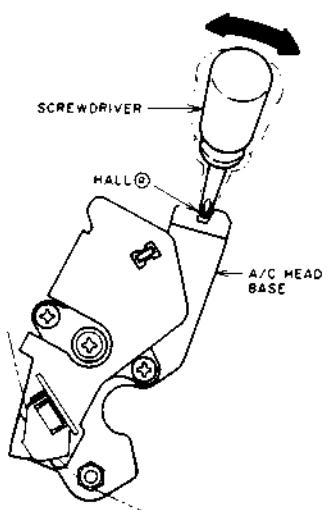

Fig. 5-8
- 4) Insert a sharpness screwdriver into A/C HEAD BASE and hall **a** as shown in Fig. 5-8.
- 5) Move the A/C HEAD BASE by moving a screwdriver in the directions of the arrow as shown in Fig. 5-8 to obtain the maximum RF output.